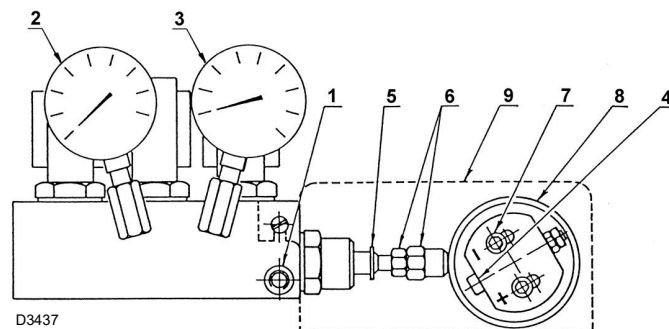

Fig. 30
modify the eccentricity by acting on the screw 4)(Fig. 30) after having loosened the screws 7).
Key (Fig. 30)
- Adjust the minimum return pressure to approx. 6 bar. To do so, the length of the shaft 5)(Fig. 30) must be varied by means of nut 6).
- Having performed this first adjustment, increase the output supplied via the automatic return selector on the control panel. Pause after a 15° rotation of the servomotor and perform another adjustment by means of the variable profile cam of the air. It is recommended to perform a calibration that will prevent the formation of a smoky flame and arrive as soon as possible to the maximum output (maximum stroke of the servomotor 130°); on the eccentric screw 5)(Fig. 30), calibrate the pressure on the return line to obtain the output desired and requested by the nozzle, and then go back to calibrate the intermediate points.